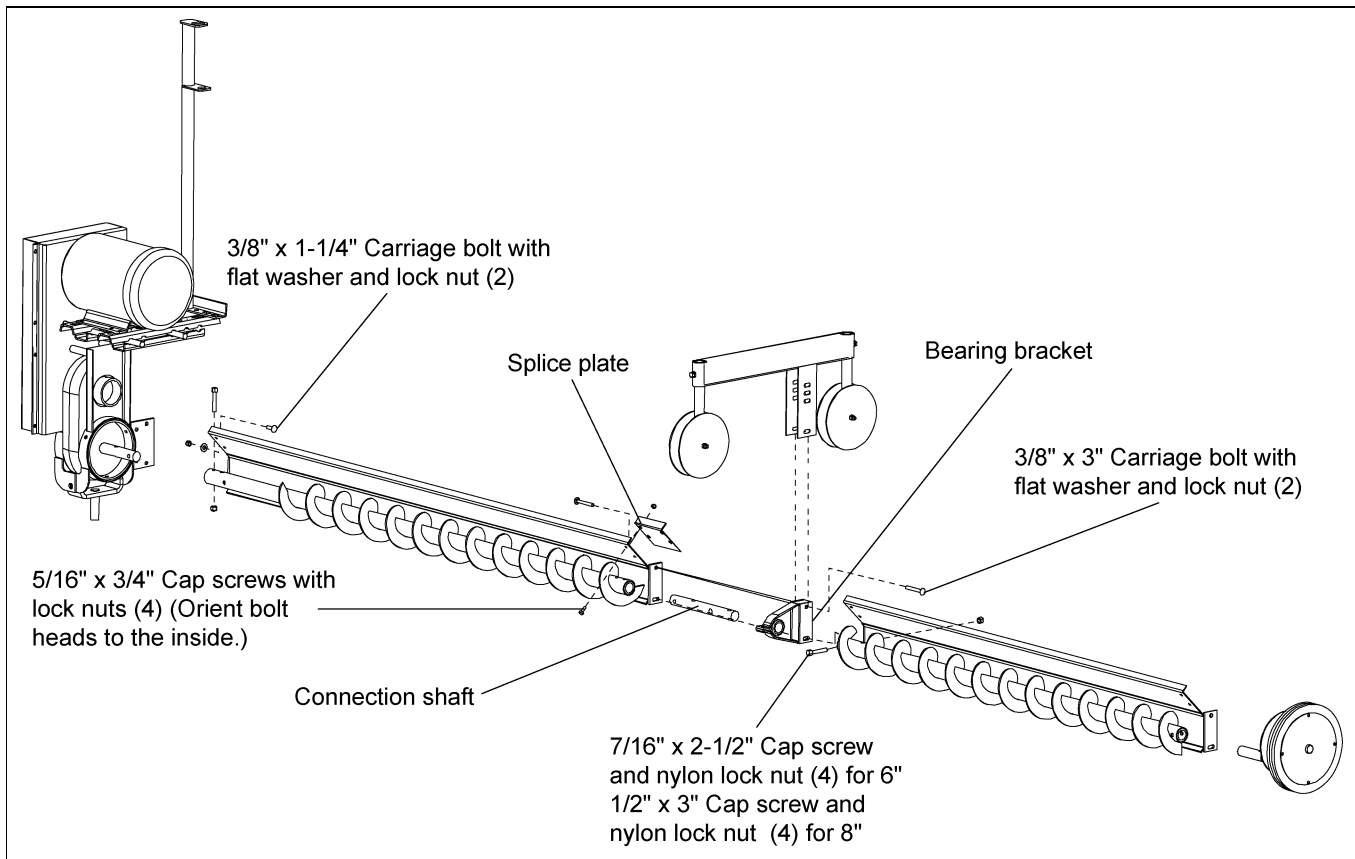

Figure 4E
3. Bolt the sweep flight with the cutback to the reducer output shaft of the drive assembly using two (2) 7/16" x 2-1/2" HHCS bolts and lock nut. Attach the back shield to the drive frame using two (2) 3/8" x 1-1/4" carriage bolt, flat washers and nylon lock nuts. (See Figure 4E.)
4. Connect the sweep flights together with the connecting stub shaft using four (4) 7/16" x 2-1/2" HHCS bolts and lock nuts. Be sure to place connecting stub shaft through the bearing bracket before attaching the flight together. (See Figure 4E.)
5. Attach the back shields to the bearing bracket using two (2) 3/8" x 3" carriage bolts with flat washers and lock nuts. Connect the splice plate to the shields with four (4) 5/16" x 3/4" HHCS bolts and lock nuts. For bins 48' or larger in diameter, install the sweep carrier at a bearing location in the center or outward of center of sweep length. (See Figure 4E.)